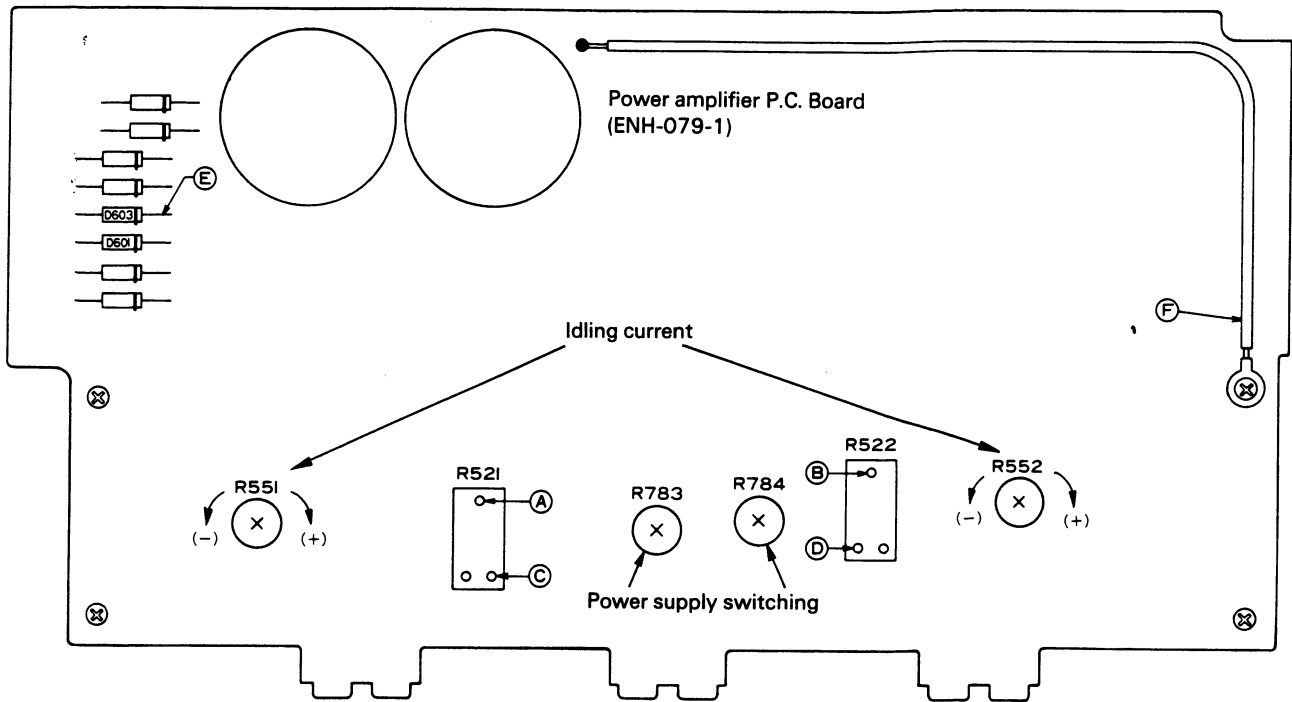

Fig. 5
As this unit is grounded by connecting the ground lead to the chassis base, when the power amplifier P.C. board is removed, operation becomes unstable because of no grounding. For this, when operating with the power amplifier P.C. board removed from the chassis base, connect the ground lead ⑥ shown in Fig. 5 directly to the chassis with a screw.